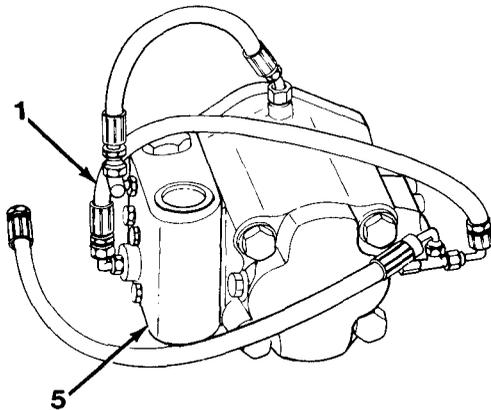

Figure 16-1
19. Connect hose (1) to winch brake valve assembly (5, Figure 16-1).